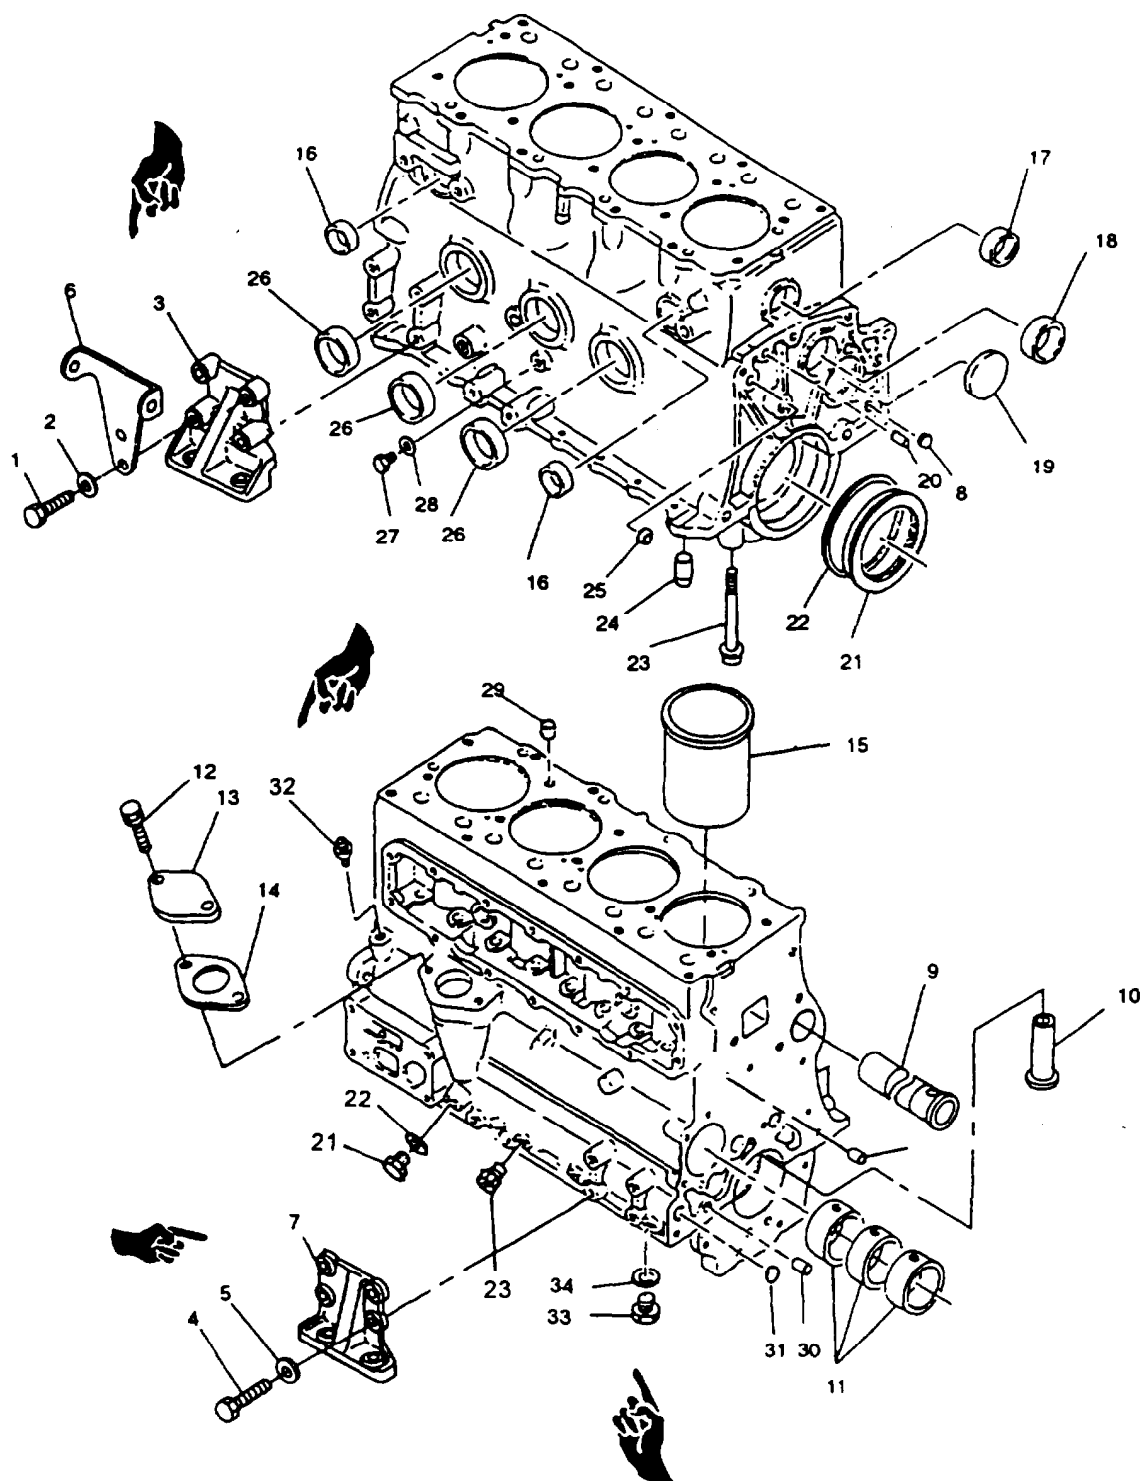

FIGURE 3-111. Cylinder Block Assembly
- b. Remove bolts (1, FIGURE 3-111) and washers (2) securing left engine foot (3) to cylinder block; remove foot.
- c. Remove bolts (4) and washers (5) securing right engine foot (7) and alternator mounting bracket (6); remove foot and bracket.
- d. Remove small freeze plug (8) on rear of engine and using a punch, drive coolant duct (9) from cylinder block.
- e. Remove eight tappets (10) from block. If they are to be reused, tag them as to their location for use during assembly.
- c. Install new cylinder liners (15, FIGURE 3-111) as follows:
- d. Position cover (13, FIGURE 3-111) and new packing (14) on engine block and secure with two screws (12).
- e. Install camshaft bearings (11) using bearing remover/ installer (320905) ensuring bearing oil holes align with cylinder block oil holes.
- f. Apply a coat of engine lubricating oil (ML-L-21 04) to the eight tappets (10) and cylinder block tappet traveling bores. If reusing tappets, ensure they are installed in correct locations as tagged during disassembly.
- g. Apply adhesive (242) to lip of coolant duct (9) and install it in engine block.
- h. Apply adhesive (242) to all freeze plugs removed and tap them into holes in block.
- k. Position right engine foot (7) and alternator mounting bracket (6) on cylinder block and secure with bolts (4) and washers (5).
- l. Position left engine foot (3) on cylinder block and secure with bolts (1) and washers (2).
- m. Install new gasket (40) and front plate (41) on cylinder block aligning front plate with two pins (30). Secure plate with screws (42) and tighten to 168 pounds-inch (19 Nm)